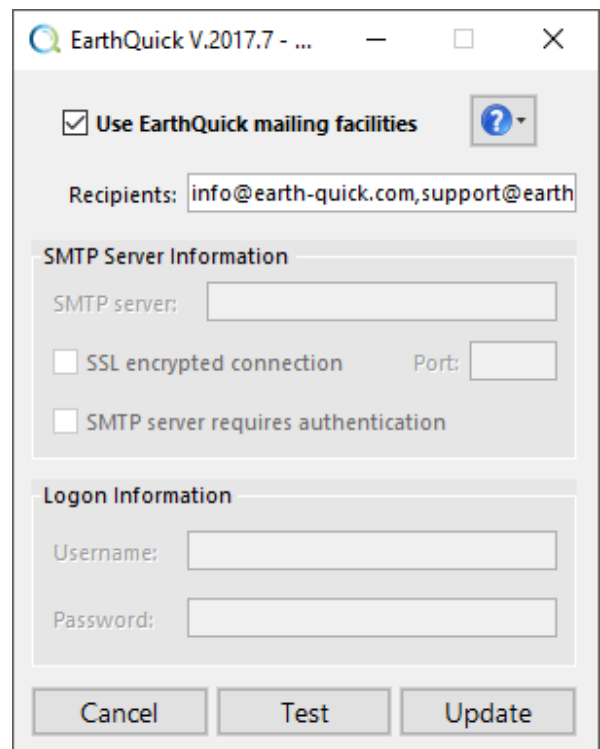

Figure 20: Management frame for Mailing settings.
(4) – **Mailing facilities**, used in Global Viewer and WellsBoard modules, to share on-the-fly reporting with a list of predefined recipients in 2 mouse clicks. See Figure 20 and comments aside.
- **MailingSettings.xml** contains mailing settings to send Metadata pieces directly from *Data Folder Trees* of the Global Viewer and Wells Board. (See Figure 20 and Chapters 5 and 6).